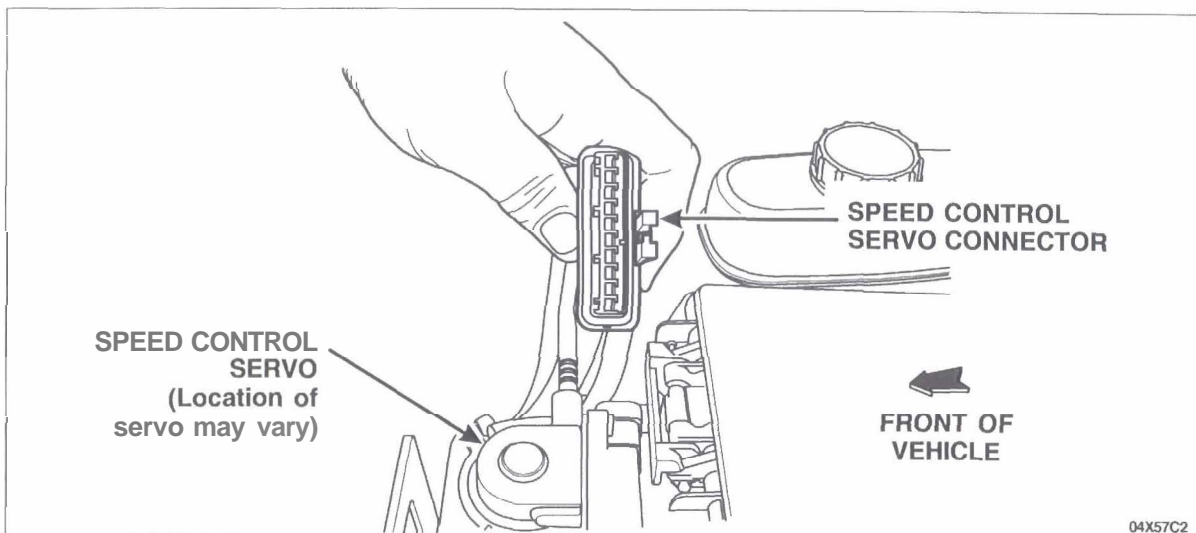

FIGURE 3
- If brake fluid is present, DISCONNECT THE SPEED CONTROL SERVO AND INSPECT THE VEHICLE HARNESS CONNECTOR FOR HEAT DAMAGE. See Figure 3.